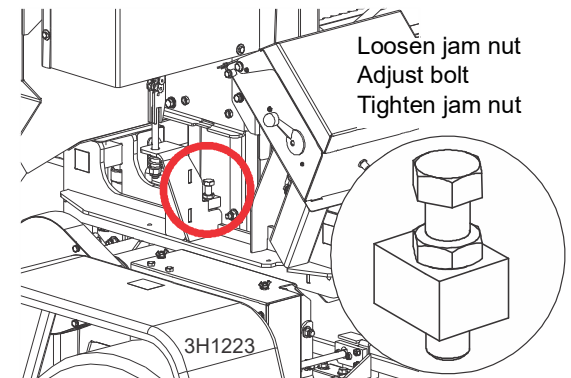

FIG. 4-15
8. Adjust the head stop bolt (located at the bottom of the mast) so the saw head sits 3/4" (19mm) into the rest pin. **See Fig. 4-15.**